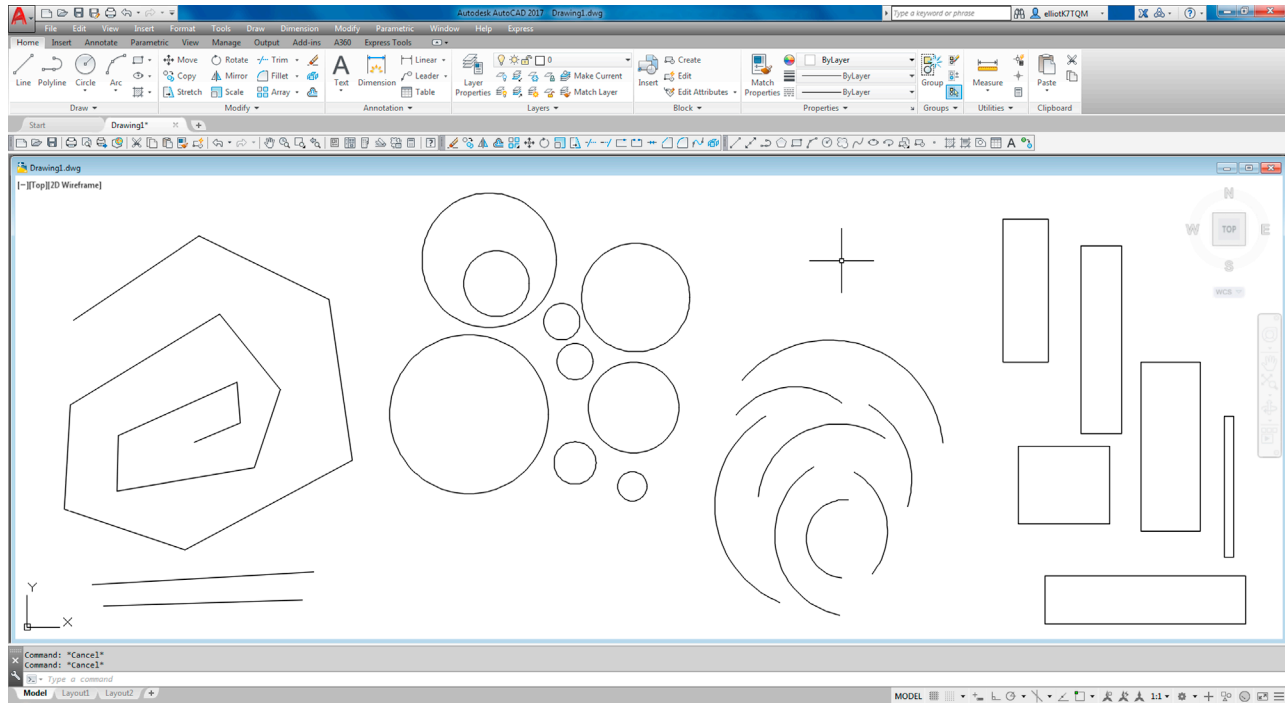

FIGURE 1.19 Rectangles drawn.
Step 3. Left-click one more time to finish the command. Your screen should look more or less like Fig. 1.19.